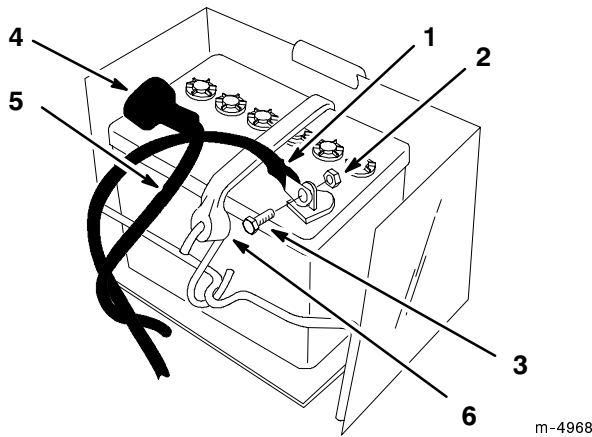

Figure 39
3. Disconnect the negative (black) ground cable from the battery post (Fig. 39).
4. Lift the red rubber cover up on the positive cable. Disconnect the positive cable (red cover) from the battery post (Fig. 39).
5. Remove the battery hold down strap (Fig. 39). Remove battery from the tractor.
1. Install the battery into the tractor (Fig. 39).
2. Secure battery with hold down strap (Fig. 39).
3. Using the bolt and nut, connect the positive (red cover) cable to the positive (+) battery post (Fig. 39). Slide the rubber cover over the battery post.
4. Using the bolt and nut, connect the negative (black) cable to the negative (-) battery post (Fig. 39).